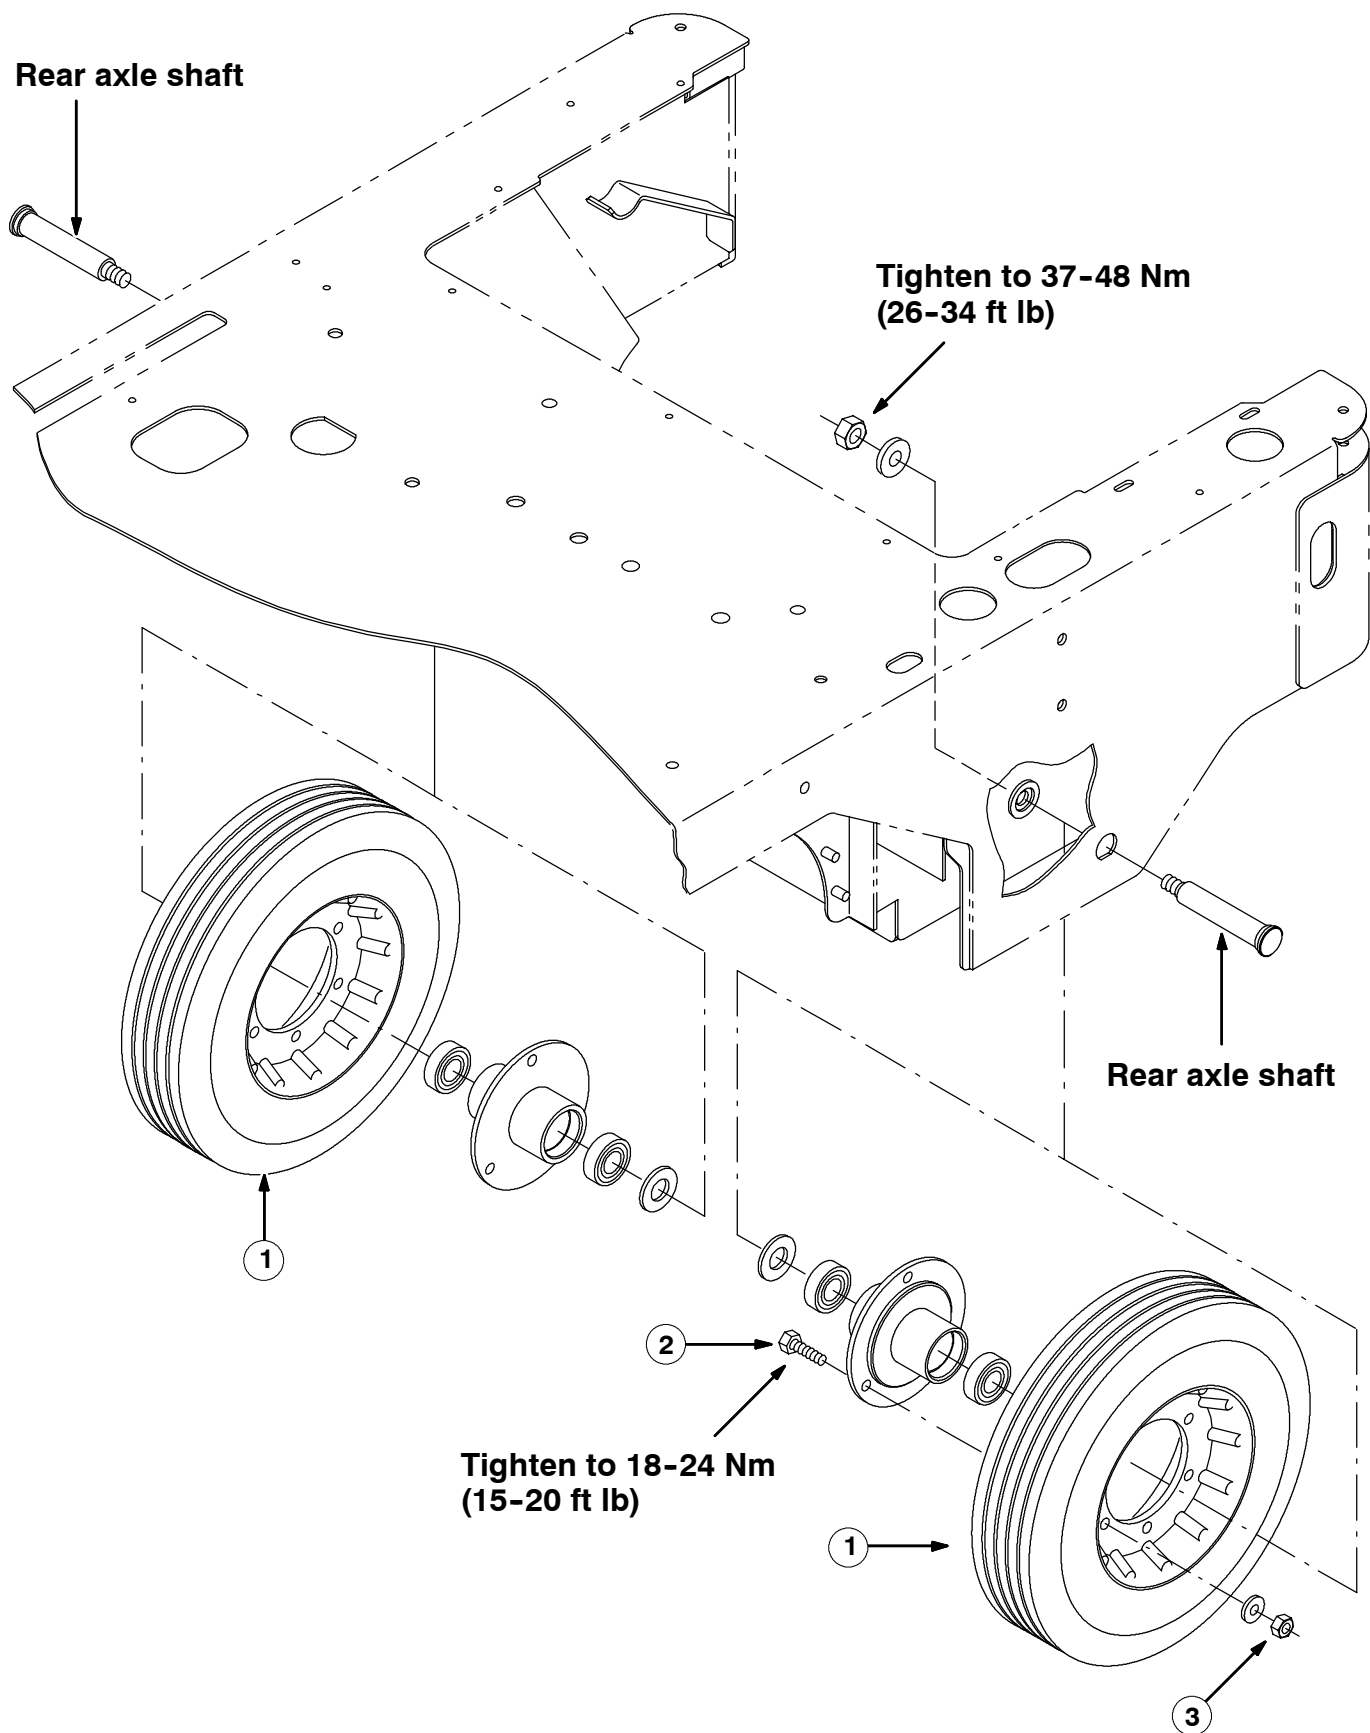

FIG. 1 - Rear Wheel Kit, Non-Marking
(Refer to FIG. 1, 2 and 3)
(Refer to FIG. 1)
8. Position the rear hub assembly onto the new tire assembly (1). Place the three hex screws (2) through the hub and then through the wheel. Install the lock nuts (3). Center the hub on the wheel. Tighten the mounting hardware to 18–24 Nm (15–20 ft lb). (Refer to FIG. 1)
9. Install the tire and hub assembly into the machine with the hub positioned on the inside of the machine frame. (Refer to FIG. 1)
10. Hold the wheel in position and install the axle shaft from the outside of the machine frame. **Note the D shape of the frame mount hole and the D on the axle shaft.** Line the two up, and push the axle all the way into the mount hole. (Refer to FIG. 1)
11. Locate the end of the axle on the inside of the machine frame. Install the washer and nyloc nut on the end of the axle. Tighten to 37–48 Nm (26–34 ft lb). (Refer to FIG. 1)